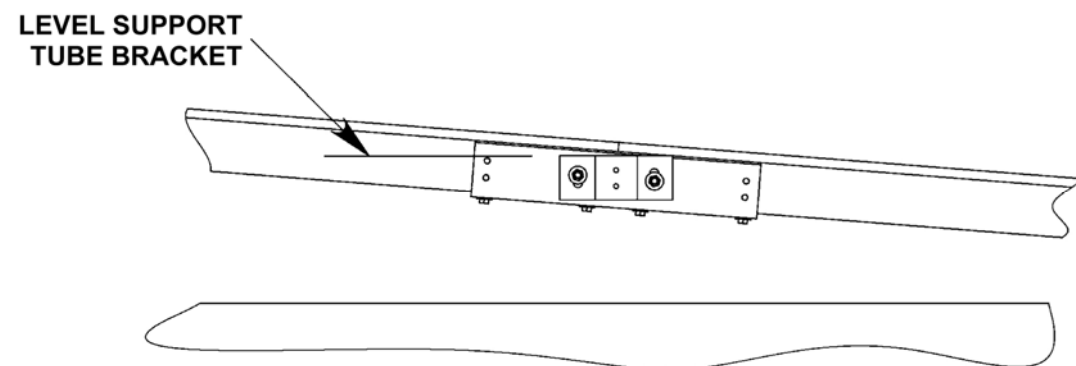

FIG. 20
- a. To ensure plumb support tubes, level the support tube brackets (FIG. 20).